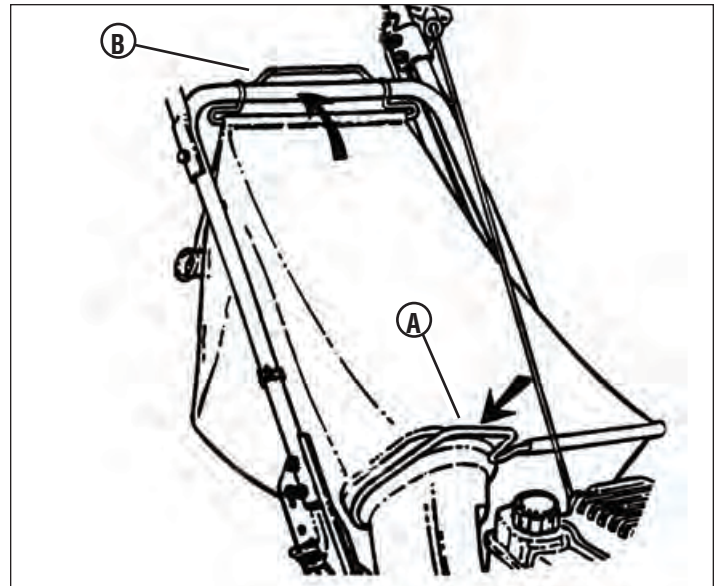

Figure 17
- Slide the connector over the end of the bag adapter flange (A, Figure 17).
- Hook the top wire over the middle handle (B).